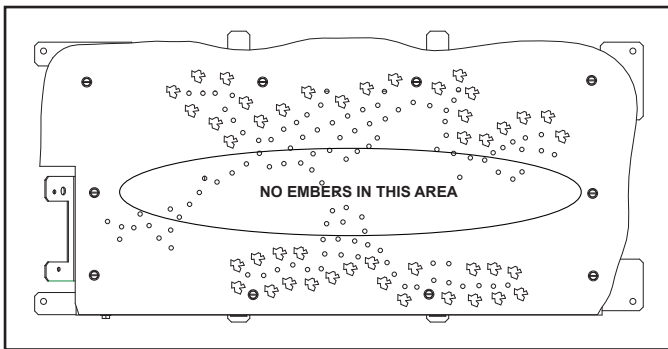

Figure 11.24 Ember Placement
- Place dime-size pieces of Glowing Embers® just in front of the port trail, but not on or in between the ports. See Figure 11.24. Embers are to be placed adjacent to burner port holes. Care should be taken so that the ports are not covered. Failure to follow this procedure will likely cause lighting and sooting problems.